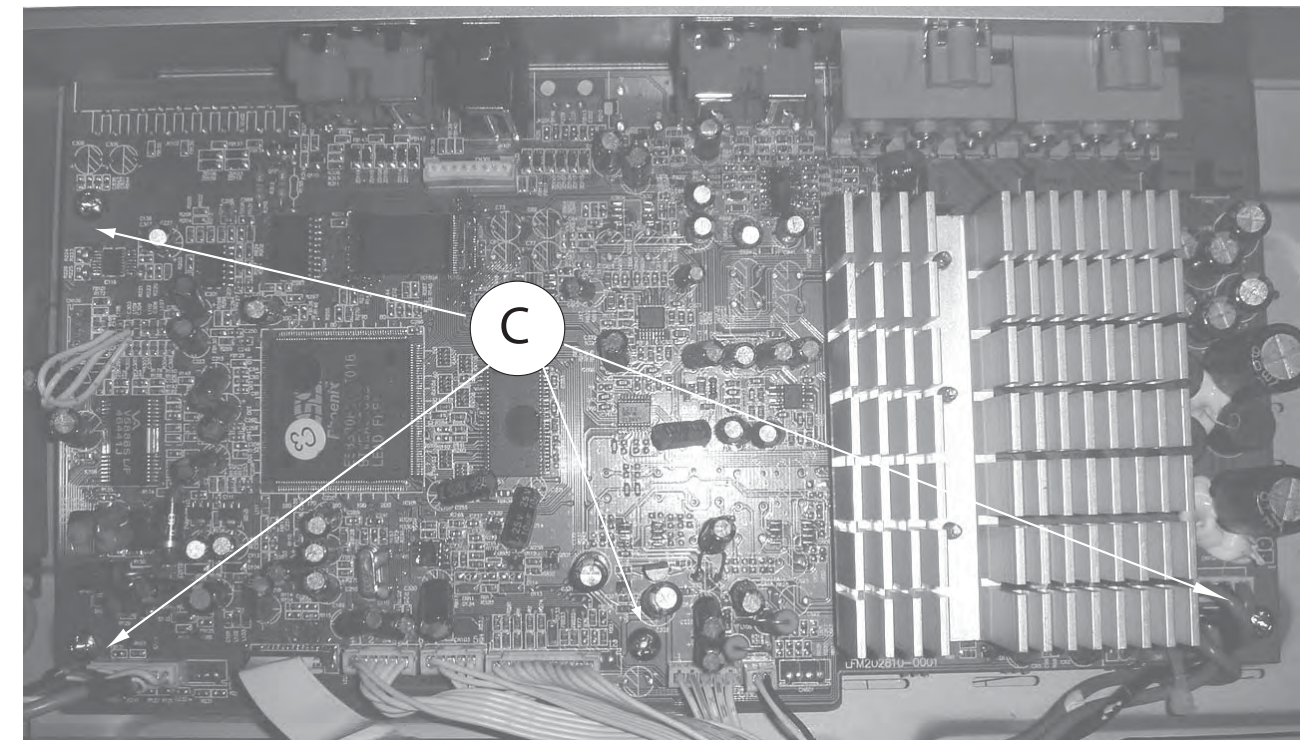

Figure 5
- 2) Loosen 4 screw "C" on the top of main board as shown in figure 5.